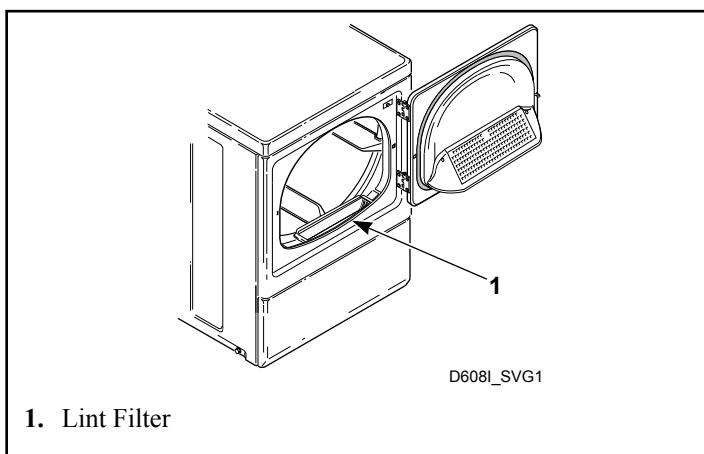

Figure 44
**CLEAN THE LINT FILTER BEFORE DRYING EACH LOAD.** (Refer to *Figure 44* for lint filter location.) Cleaning the lint filter is important because a layer or pad of lint on the filter will block the flow of air through the dryer, thus reducing the efficiency of the dryer. The clothes will take longer to dry and energy will be wasted.